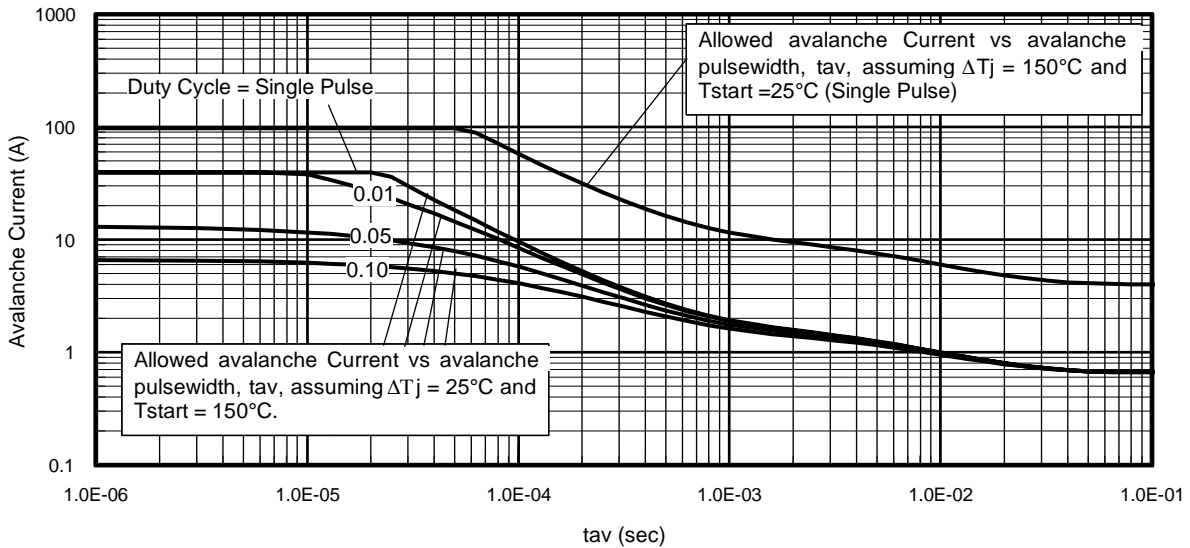

Fig 14. Typical Avalanche Current vs. Pulsewidth
| I_{AR} | Avalanche Current ① | See Fig. 14, 15, 16a, 16b | A |
Notes on Repetitive Avalanche Curves, Figures 14, 15:
7. ΔT = Allowable rise in junction temperature, not to exceed T_{jmax} (assumed as 25°C in Figure 14, 15).